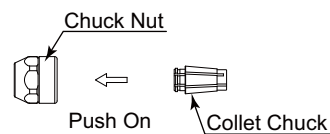

Fig. 8
- Push the collet chuck manually straight into the chuck nut or by using the bar wrench. When hard to attach, push the collet chuck slightly into the chuck nut after placing the collet chuck in the bar wrench (Fig. 8).